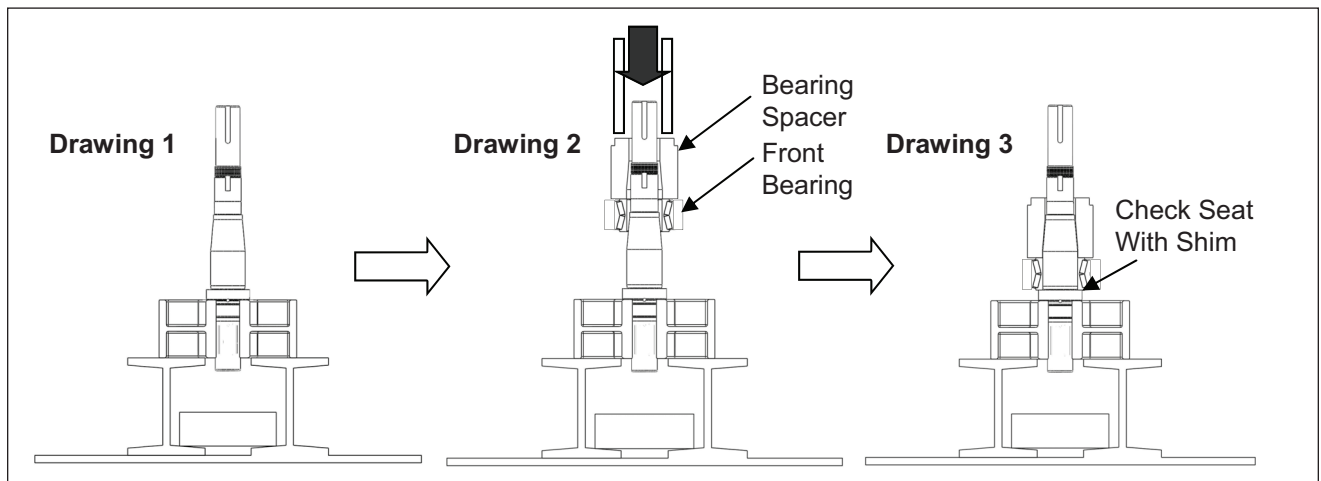

Figure 36. Pressing Front Bearing onto Shaft
1. Clean all reusable parts prior to reassembly. Apply a light coat of lubricant on the shaft area where the front bearing will sit. Position the shaft upright in the press with the splines facing down (Figure 36, Drawing 1). Open the new front bearing assembly and be sure not to interchange any parts. All bearings are manufactured as sets and assembled to have a precise overall length. Place the front bearing over the shaft along with the bearing spacer
(Figure 36, Drawing 2). Make sure the bearing and spacer are aligned before pressing them on. Reference Table 5 for the required force (in tons) needed to press the bearings on to the shafts. Using a sleeve that rests on the bearing spacer and rides over the shaft, press the bearing on until it seats against the shaft shoulder. A shim can be used to ensure that the bearing is fully rested on the shaft shoulder (Figure 36, Drawing 3).